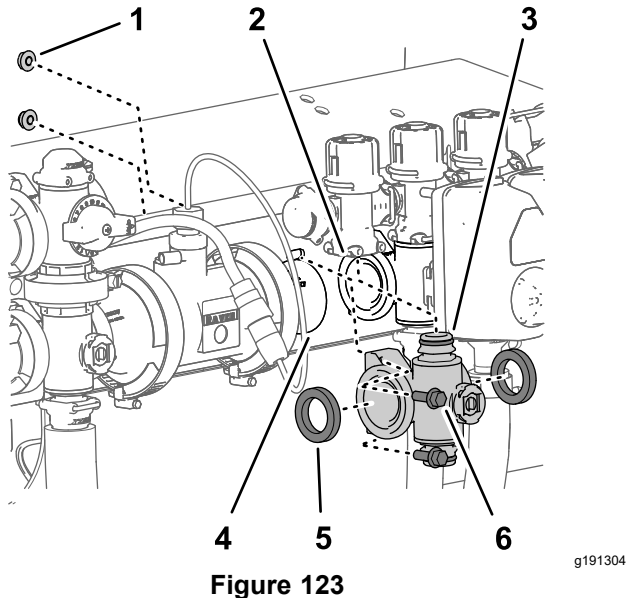
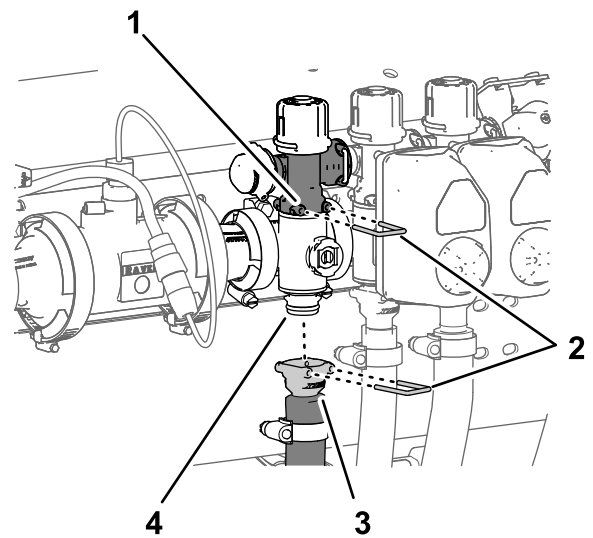

Figure 123
Figure 124
1. Align the 2 gaskets that you removed in Removing the Section-Manifold Valve \(page 82\) to the flanges of the section-valve manifold (Figure 123).
2. Align the flange of the section-valve manifold between the flanges of the other section-valve (s) and/or coupling adapter (Figure 123).
3. Assemble the quick-connect fitting of the section-valve manifold to the quick-disconnect socket of the section-bypass valve with a quick-connect pin (Figure 123 and Figure 124).
5. For left or right section-valve manifolds, assemble the section-valve manifold to the valve support (Figure 123) with the 2 flange-head bolts (1/4 x 3/4 inch) and 2 flange locknuts (1/4 inch) that you removed in Installing the Section-Manifold Valve \(page 85\).
8. Assemble the quick-connect coupler of the section hose onto the quick-connect fitting of the section-valve manifold with the quick-connect pin (Figure 124).